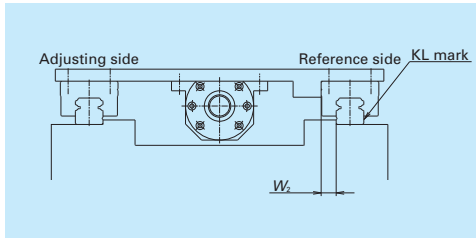
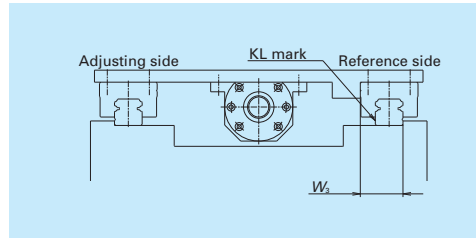

Fig. 4.3 Mounting width W_2
Fig. 4.4 Mounting width W_3
- Mounting width differs depending on the arrangement of the datum surfaces of the rail and slide on the reference linear guide (indicated as KL on the rail). (Fig. 4.3 and Fig. 4.4)